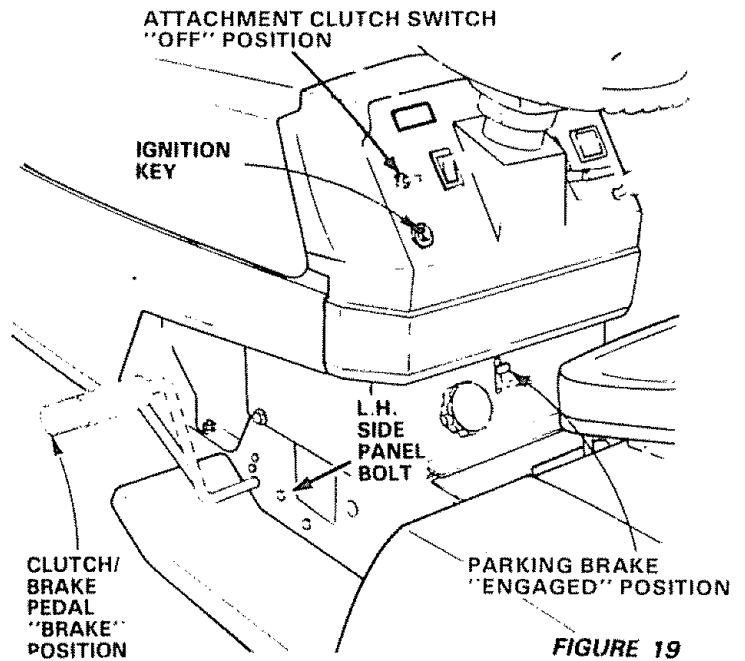

FIGURE 19
**BEFORE MAKING ANY INSPECTION, ADJUSTMENT OR REPAIR: (FIG. 19):**